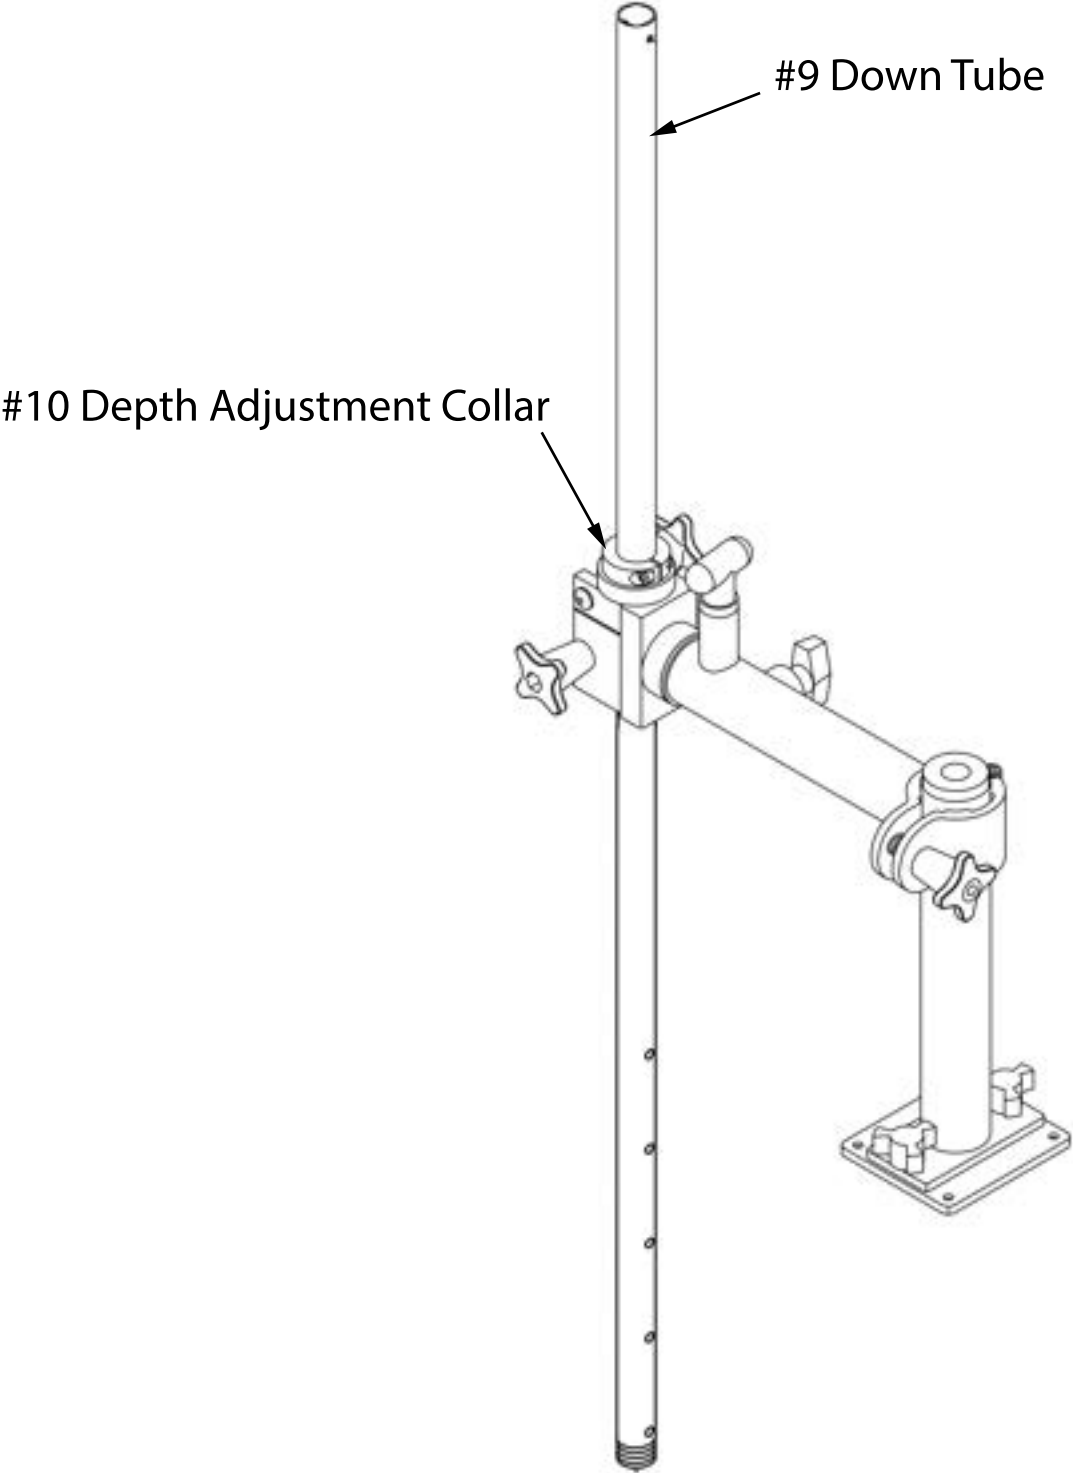

FIGURE 3
STEP 3. Install the #9 Down Tube as seen in Figure 3.